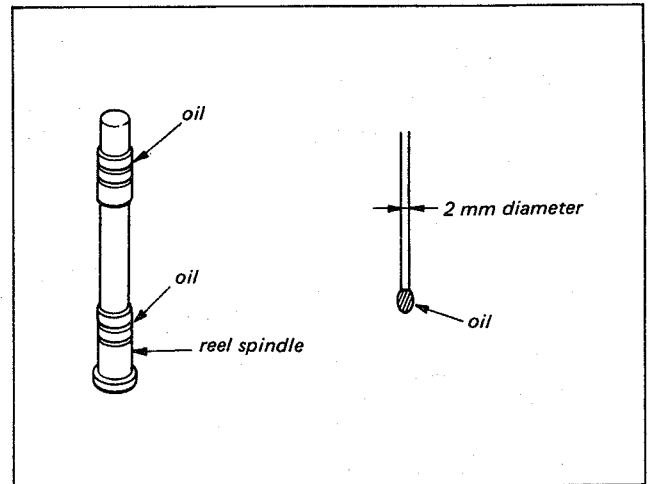

Fig. 4-3. Lubrication of reel spindle
- Apply a drop of SONY oil on the reel spindle as shown in Fig. 4-3, whenever the reel table is removed and is adjusted its height with washer. Amount of oil should be one drop that is scooped by tip of 2 mm diameter twig such as pencil lead.